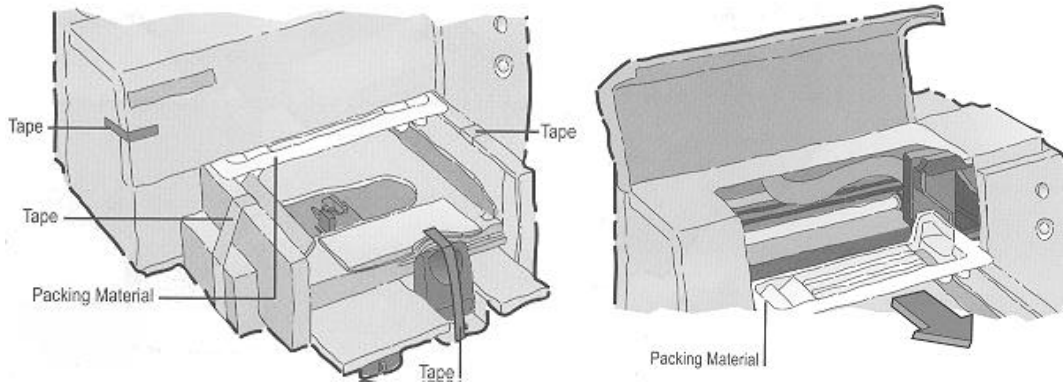

Figure 1, Packing Material Removal
23. Remove the Printer (0528-0033-01) from its carton. Referring to Figure 1, remove all tape from the printer and remove the carriage cover to gain access to the print head. Remove the plastic stop that secures the print head.